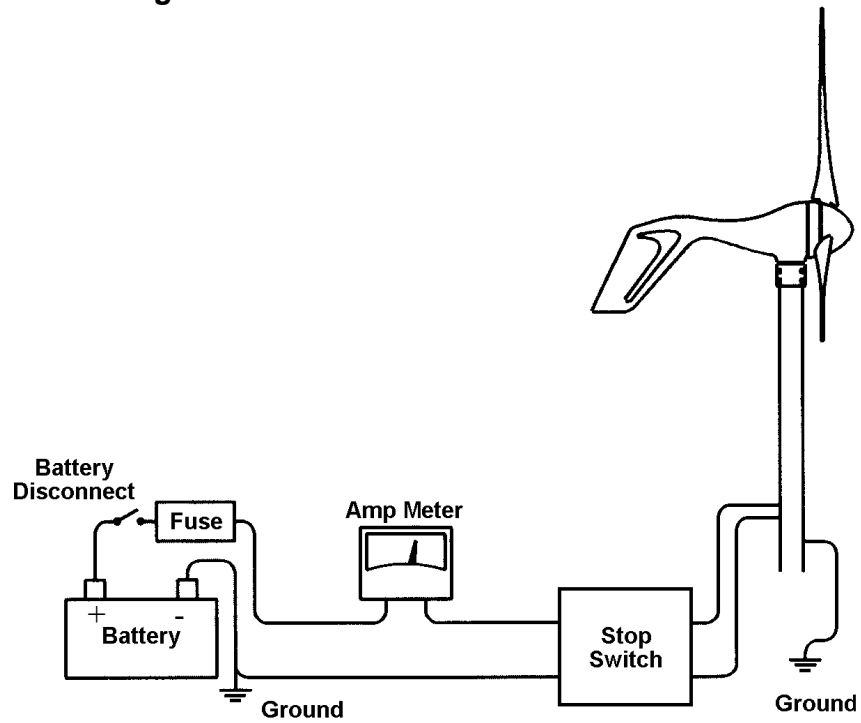
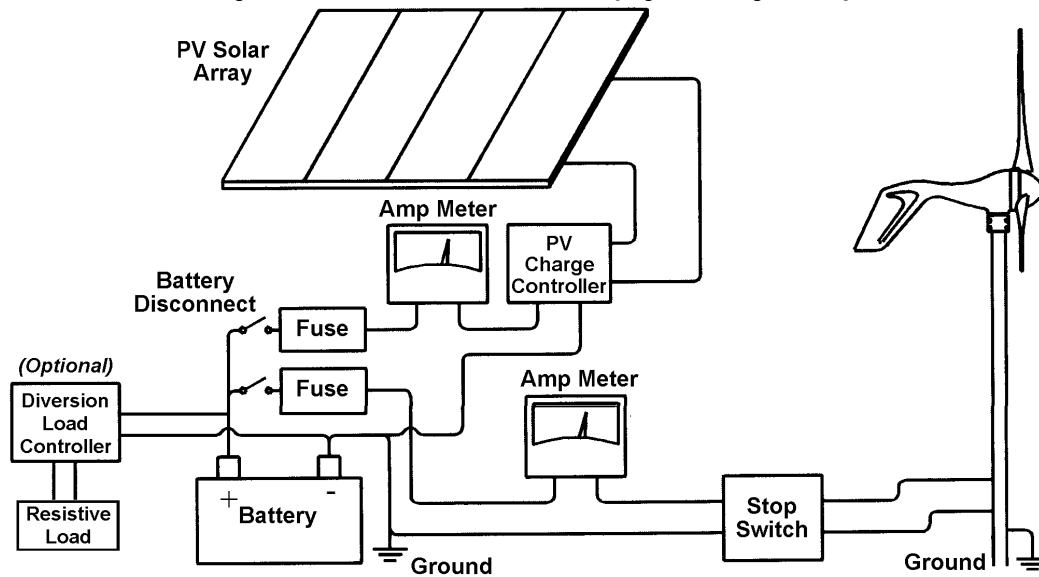
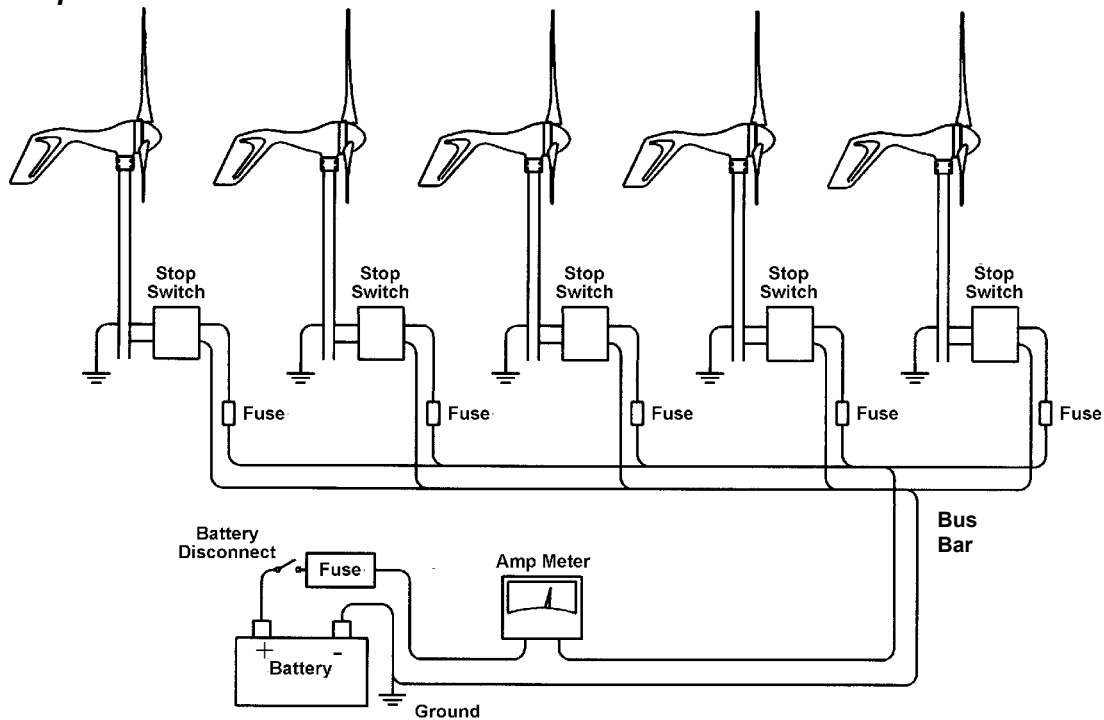

Figure 3
Figure 4
Figure 5
NOTE: In Figure 3 and in Figure 5, the *AIR-X's* internal regulator is used. In Figure 4, a diversion type external regulator is used. The diversion type regulator could be used in any of the systems.
12) Run all wires from the turbine to the battery (do not connect wires to the battery). Be sure to crimp and solder the connections using the appropriate sized connectors. If you plan to connect an amp meter into your system, see Figure 4, on page 14.